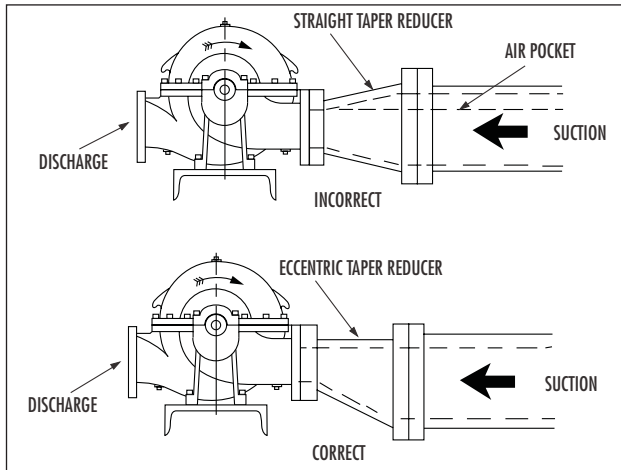

Figure 3. Installation of tapered reducers.
**REDUCERS.** Eccentric reducers should be installed directly at the suction nozzle, with the taper at the bottom to prevent air pockets from forming. Straight taper reducers should never be used in a horizontal suction line because of the air pocket that is formed at the leg of the reducer and the pipe. Refer to Fig. 3.